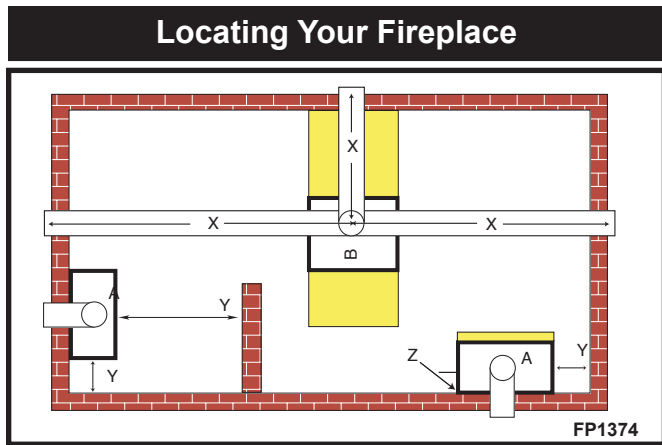

Fig. 1 Locating gas fireplace.
- A. Wall Location (Fig. 1)
- B. Island Location (Fig. 1)